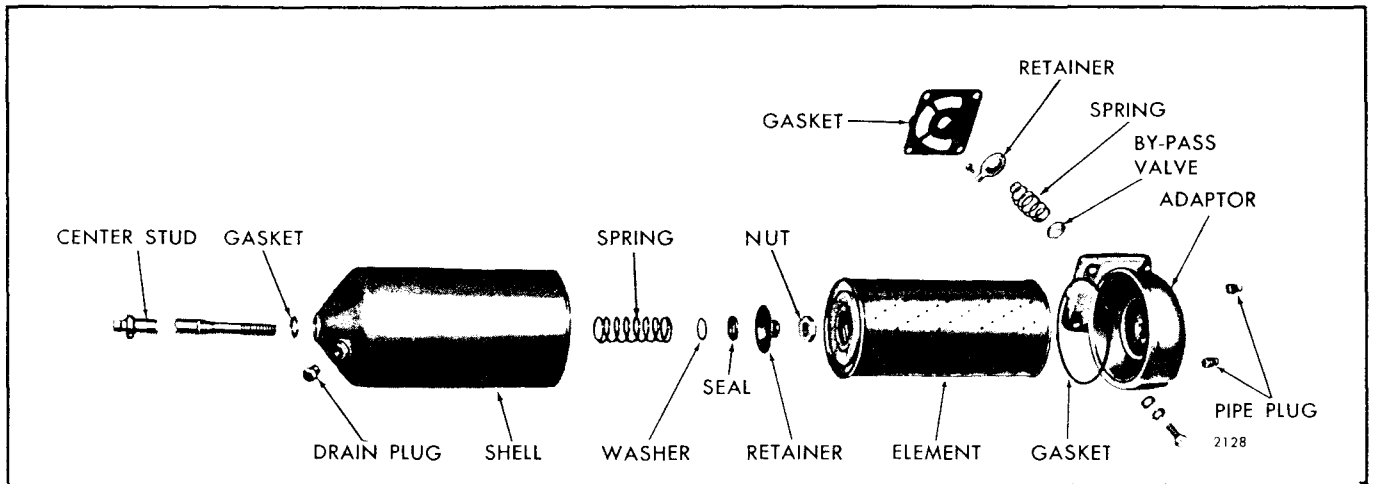

Fig. 4 - Full Flow Oil Filter Details and Relative Location of Parts
1. Remove the four bolts and washers and detach the filter adaptor or filter junction housing from the oil cooler adaptor (Fig. 4).